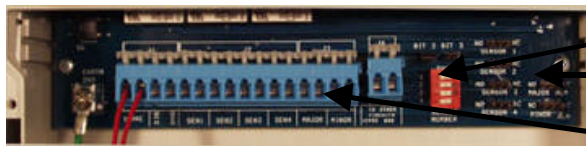

figure 3
- The wire terminations on the terminal block of the 4 Port Wireless Receiver are located in the middle of the receiver's printed circuit board. The function of each pair of terminal connections (Disable, Major alarm, etc.) is listed directly below the terminal block itself. (see fig.3).